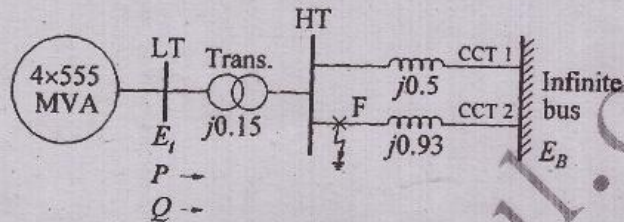

Fig. 7
15. (a) The single line diagram of a system is shown in figure 7. There are four identical generators of rating 555 MVA, 24 kV, 60 Hz supplying power infinite bus bar through two transmission circuits. The reactances shown in figure are in per unit on 2220 MVA, 24 kV base (refer to the low voltage side of the transformer). Resistances are assumed to be negligible. The initial operating conditions, with quantities expressed in per unit on 2220 MVA, 24 kV base, is as follows :